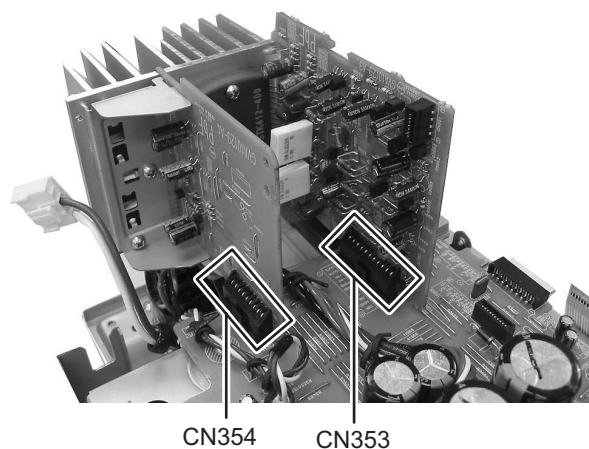

Fig.14
3.1.11 Removing the amplifier board (Fig.14)